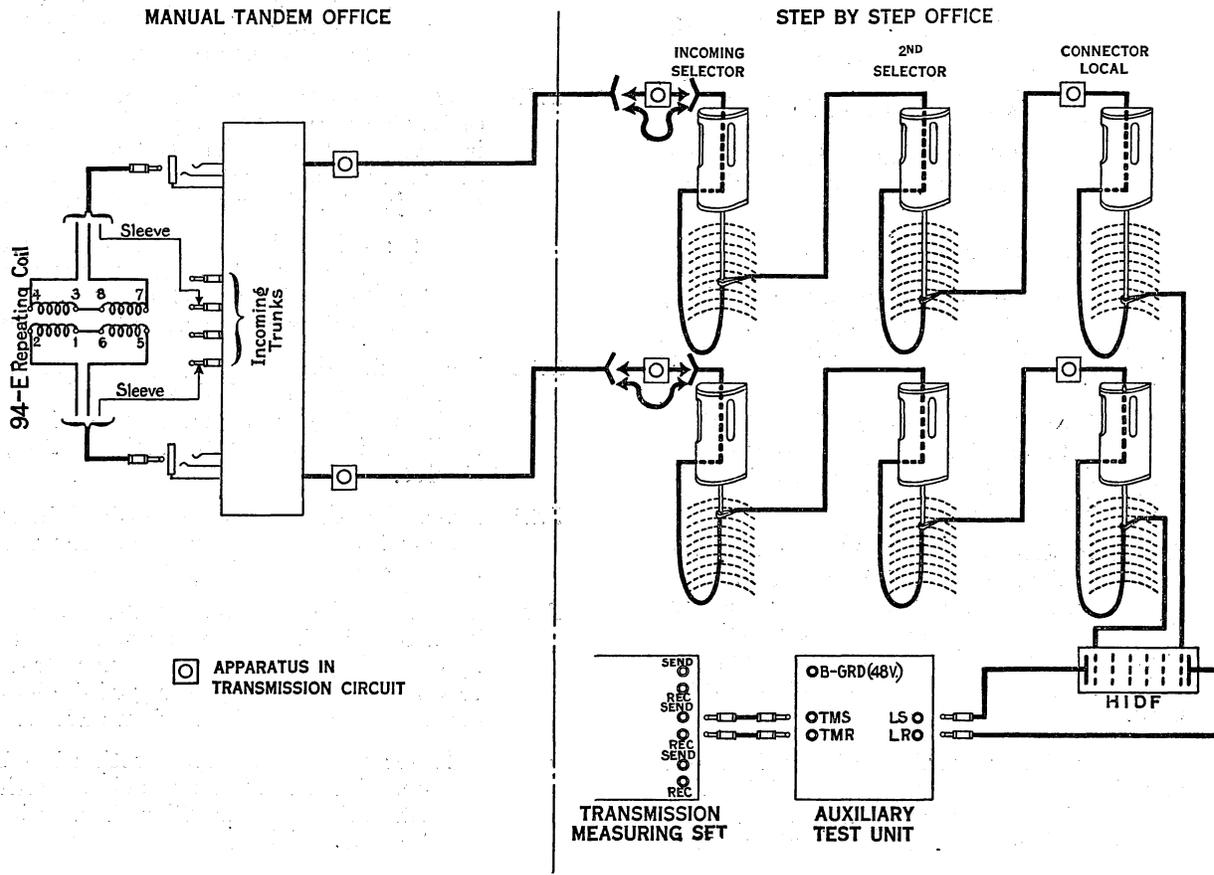

Figure 1
2.03 Figure 1 shows schematically the connections for the test.
2.04 Provide three regular double-ended patching cords equipped with 110-type plugs, two special patching cords equipped and connected as outlined below, and one special looping circuit as shown in Figure 1 and equipped and connected as outlined in Paragraph 2.05.
- 2.05 The looping circuit shown in Figure 1 consists of a No. 94-E or similar repeating coil connected as shown in Figure 1 to two switchboard cords equipped with plugs of the type suited to the jacks of the tandem switchboard and the sleeve conductors connected to the sleeves of plugs of incoming cord-ended trunks at the tandem switchboard or similar sleeve conditions.